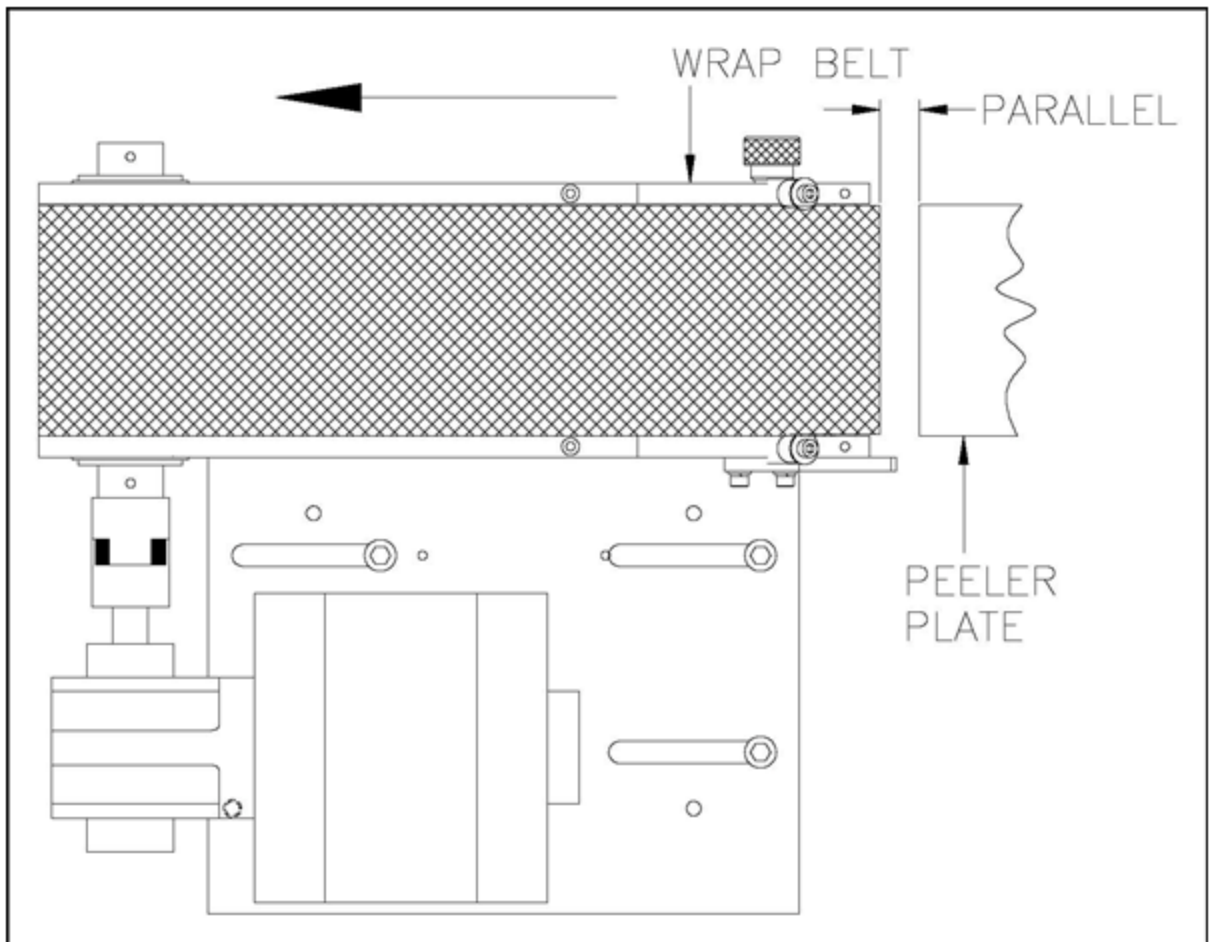

Figure 54 Peeler Plate Alignment
3. Adjust the tilt of the applicator so that the peeler tip is parallel to the wrap belt. (See Figure 54). Lock in position.